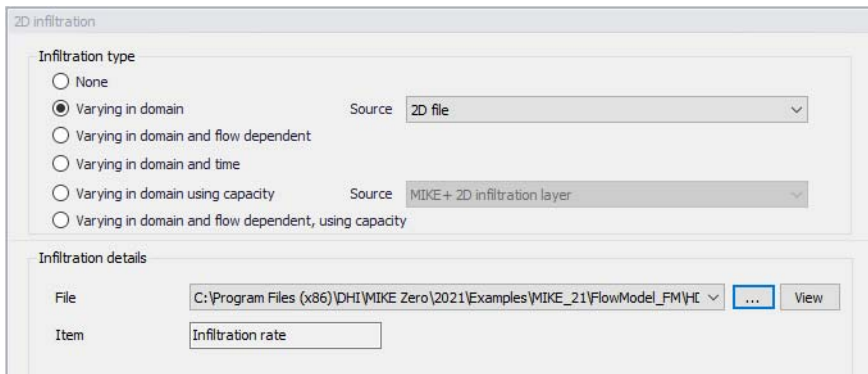

Figure 4.47 Point to a 2D infiltration file under the Infiltration details section on the editor
- **File:** A drop-down list of valid 2D background layer files on the Map. A file is valid if it is a *.DFS2 or *.DFSU file with Item type = 'Infiltration', 'Seepage', or 'Recharge' (Figure 4.47).